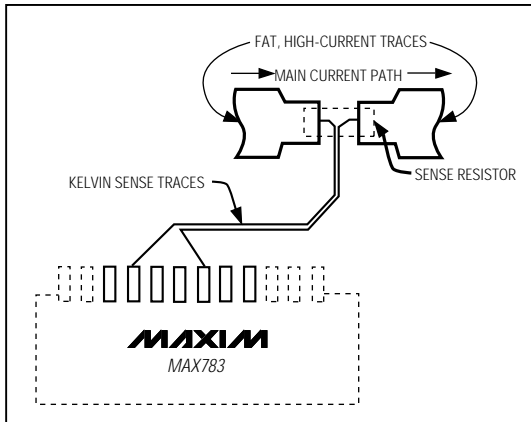

Figure 5. Kelvin Connections for the Current-Sense Resistors
Since the sense resistance values (e.g.,  $R1 = 25\text{m}\Omega$  for  $I_{\text{OUT}} = 3\text{A}$ ) are similar to a few centimeters of narrow traces on a printed circuit board, trace resistance can contribute significant errors. To prevent this, Kelvin connect the CS\_ and FB\_ pins to the sense resistors; use separate traces not carrying any of the inductor or load current, as shown in Figure 5. Run these traces parallel at minimum spacing from one another. The wiring layout for these traces is critical for stable, low-ripple outputs (see the *Layout and Grounding* section).
2. Keep the Kelvin-connected current-sense traces short, close together, and away from switching nodes. See Figure 5. Important: Place the current-sense resistors close to the IC (less than 10mm away if possible).